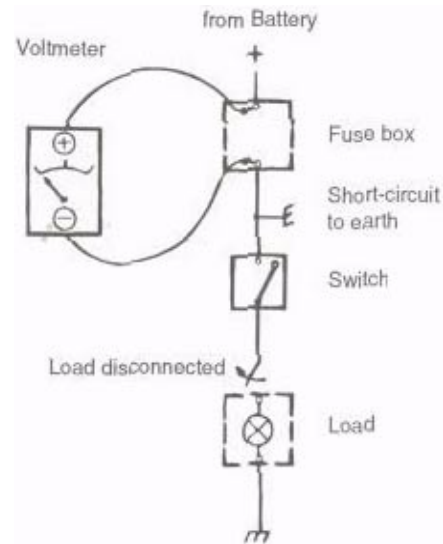

Fig. 6. Voltmeter being used to find short circuit.
3. Using a voltmeter, connect the test leads across the fuse terminals. See Fig. 6. Make sure power is present in the circuit, if necessary turn the key on.